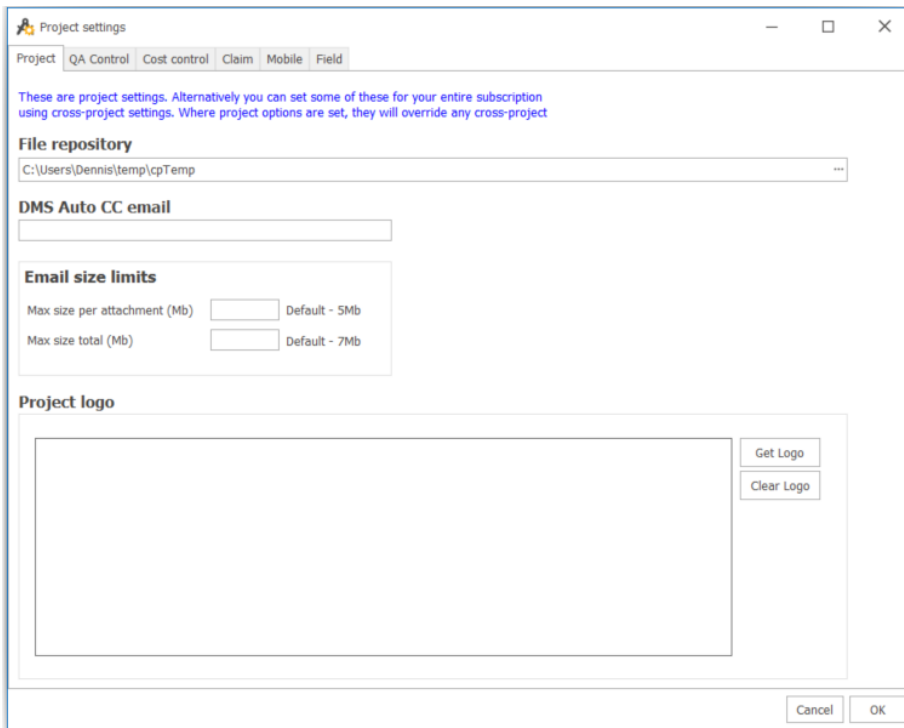

Figure 61 The Projects Settings form allows the user to 'Get Logo' using the Context Menu and customize Reports
1. In the *System Menu* (top of the page), select *Settings=> User Settings=>Project Settings*. The screen shown in Figure 61 will be visible.